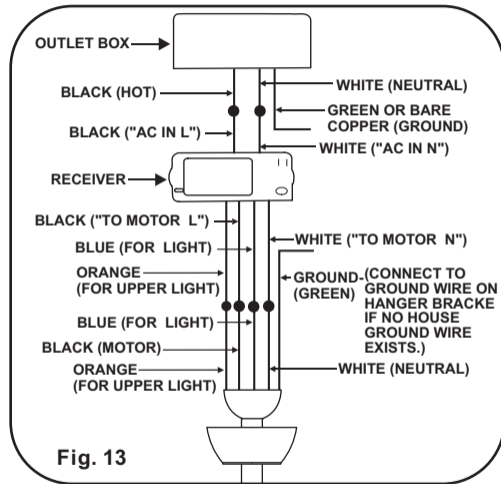

Fig. 13
NOTE: If your ceiling fan features an UP Light: Connect the ORANGE wire from the fan to the ORANGE wire marked "For Up Light" from the Receiver. Otherwise disregard this step and proceed to secure all wire connections with the plastic wire nuts provided. (Fig. 13)
Step 3. Receiver to House Supply Wires Electrical Connections: Connect the **WHITE** wire (Neutral) from the outlet box to the **WHITE** wire marked "AC in N" from the receiver. Connect the **BLACK** wire (Hot) from the outlet box to the **BLACK** wire marked "AC in L" from the receiver. Secure all wire connections with the plastic wire nuts provided. (Fig. 13)
Step 4. If your outlet box has a **GROUND** wire (Green or Bare Copper) connect this wire to the Hanger Ball and Hanger Bracket Ground wires. If your outlet box does not have a Ground Wire, then connect the Hanger Ball and Hanger Bracket Ground Wires together. Secure wire connection with the plastic wire nut provided. (Fig. 13)